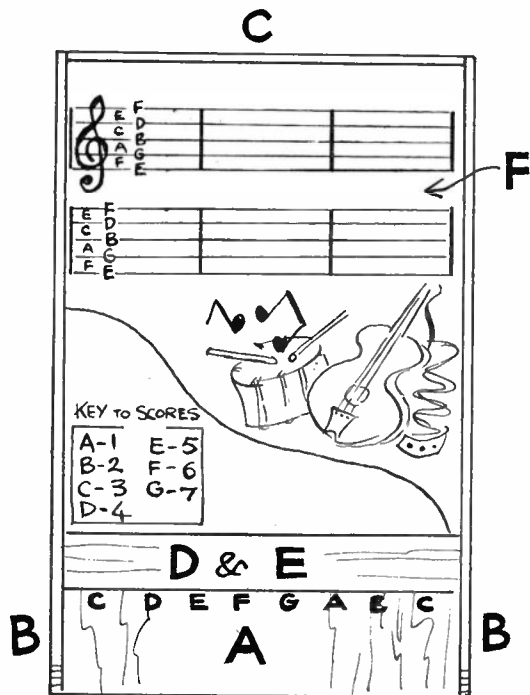

Fig. 1—Plan of the game showing the 'stave' targets and position of the 'keyboard'
The measurements of the board and layout of the components is given in Fig. 1. The board, 20 in. by 12½ in., can be of hardboard or cheap ply. Cut two strips of ¼ in. wood of 1 in. width for the 20 in. long sides (B). Between these, at the top edge of the board (A), goes the end piece (C) which is 12½ in. long and of the same width and thickness as pieces B. Use glue and panel pins to assemble the tray, and round off the ends of B at the open end of the board, as illustrated.
Cut a sheet of white card to fit neatly inside the tray. On this draw out the sheet-music scoring target to the pattern shown in Fig. 1 at F. Rule the 'stave' lines, and draw the other details with a black ball pen; then colour as desired with crayons or water paints.